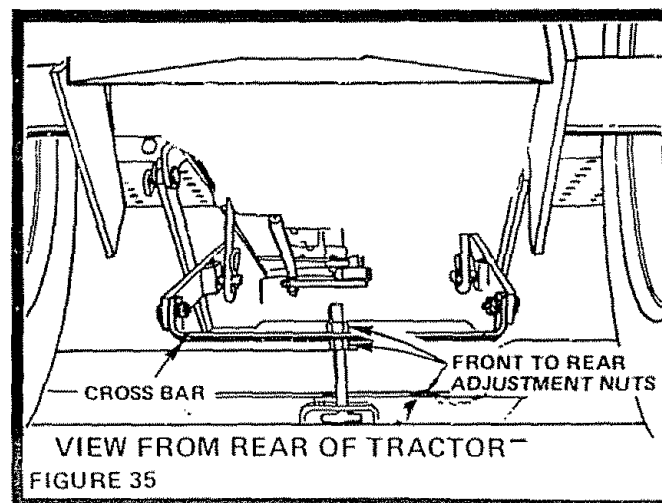

FIGURE 35
2. If adjustment is required, loosen Front to Rear Adjustment Nuts (Fig. 35) move up or down to obtain the above pitch or difference front to rear. Adjusting the Nuts up will lower the rear of the mower. Lowering Nuts will raise the rear of the mower. Tighten the two Nuts securely against Cross Bar (Fig. 35).